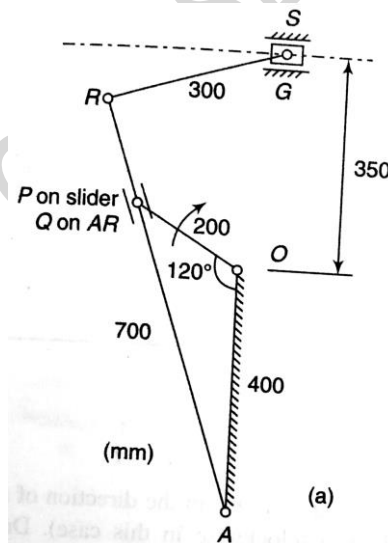

Fig. 6b
- b) Figure 6b given here shows the link mechanism of a quick return mechanism of the slotted lever type, the various dimensions of which are,  $OA = 400$  mm,  $OP = 200$  mm,  $AR = 700$  mm,  $RS = 300$  mm. For the configuration of the link shown, determine the acceleration of the cutting tool at  $S$  and the angular acceleration of the link  $RS$ . The crank  $OP$  rotates at  $210$  rpm (CW).